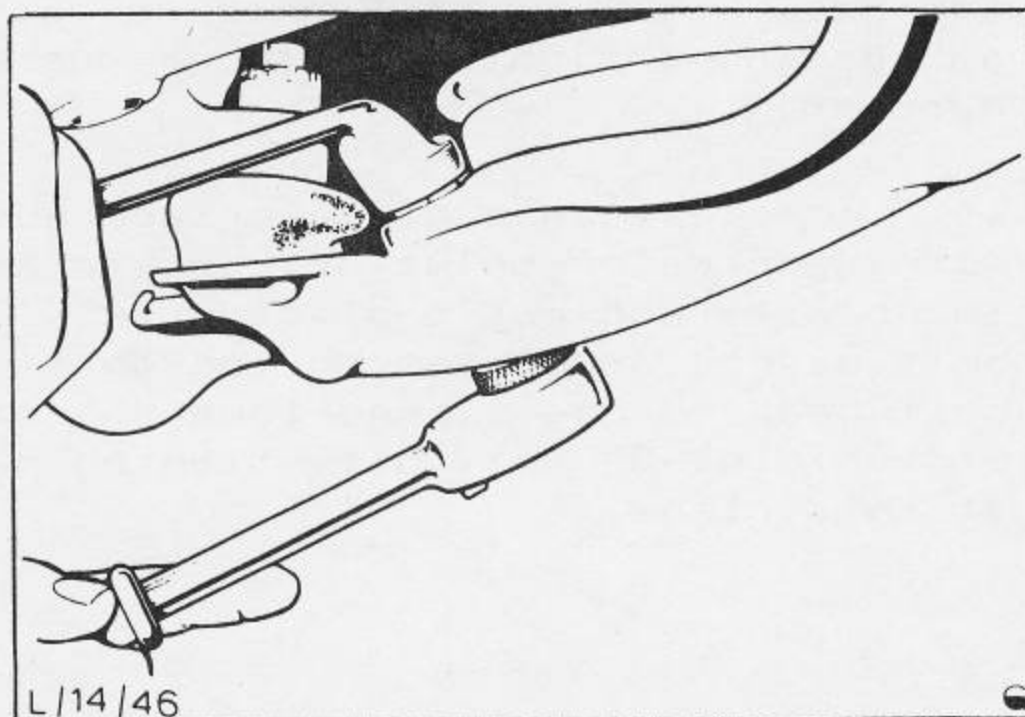

Fig.37 Tightening tie bar lower arm bolts.
19. Reposition leading link assembly on lower arm and secure with two nuts and bolts. Tighten to 43 - 50 Ft. Lbs. Fig.37